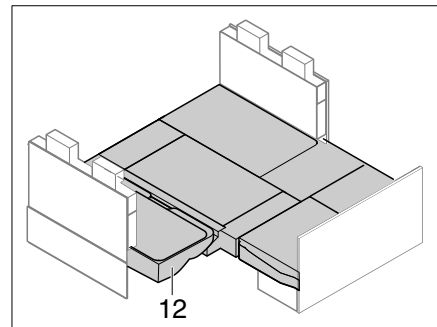

Fig. 233 After conversion
- Insert seat cushions and seat extensions. Place the back padding (Fig. 233,12) on the additional padding.